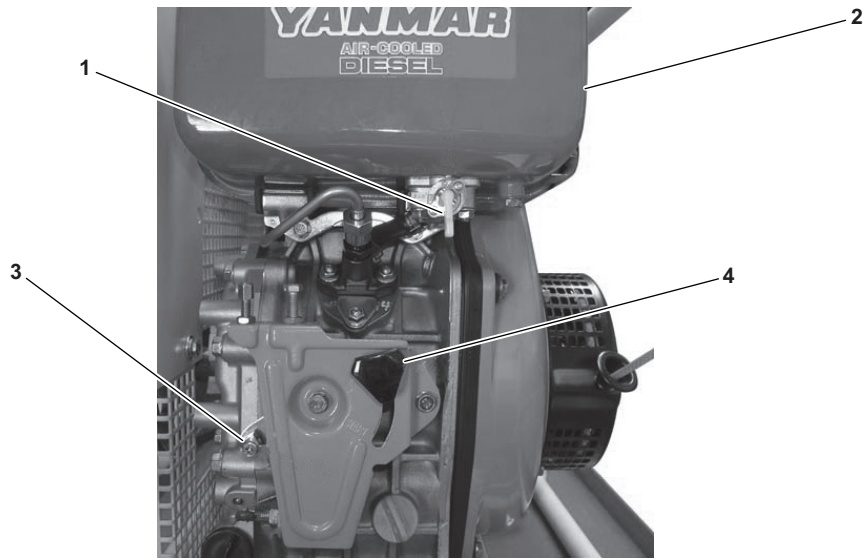

Figure 2-17. Fuel Valve in Open Position and START/STOP Knob
- k. Open the fuel valve (figure 2-17, item 1) on the the diesel engine by turning the fuel valve CW a 1/4 turn to the O (open) position. The E-BAC/SS start procedure is also illustrated on the side of the fuel tank (figure 2-17, item 2).
- l. Lift up on the START/STOP control lock lever (figure 2-17, item 3) and loosen the START/STOP control knob (figure 2-17, item 4) enough to move it to the START position. Once in the START position, tighten the START/STOP control knob and release the START/STOP control lock lever.